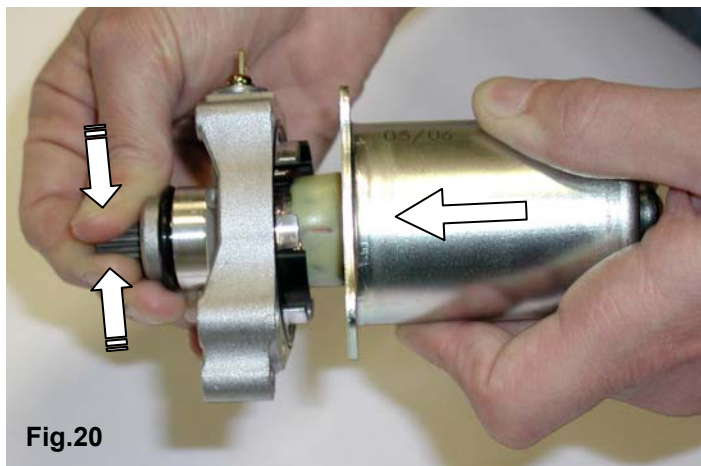

Fig.20
- INSERT STARTER DRUM ON THE HEAD BEING CAREFUL TO PREVENT ROTOR FROM ROTATING AND TO PREVENT THE BRUSHES FROM FALLING OUT OF THEIR SEAT (see Fig. 20).